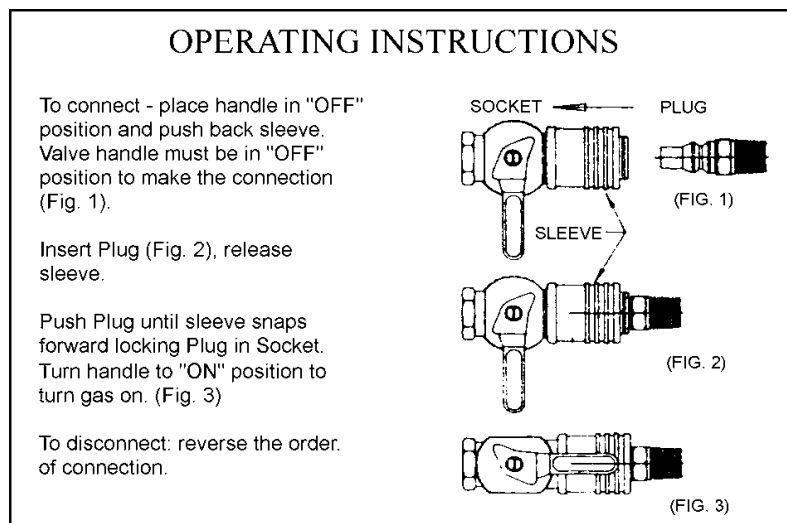

Fig. 5-2
4. LP gas connections are made with a "Quick-Coupler" system (Fig. 5-2) with positive shut-off valve as required by code and standards.